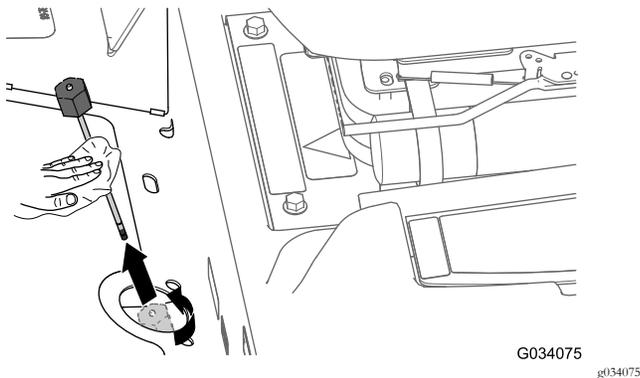

Figure 80
2. Loosen dipstick cap (Figure 80) and remove the dipstick from transaxle filler tube and wipe the dipstick with a clean rag.